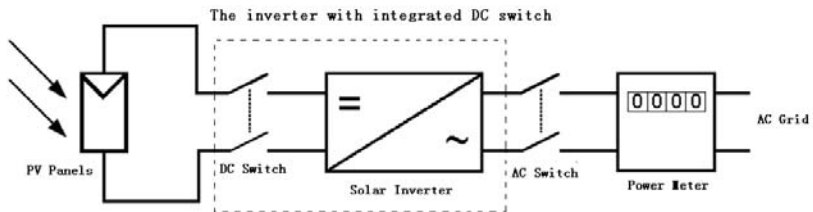

Fig.6 The PV system diagram
- DC Switch and AC Switch: “DC switch” is between PV Panels and solar inverter while “AC Switch” is between AC Grid (Utility) and solar Inverter. They are simplified in this diagram. In fact, they may consist of electrical breaker, fuse and connecting terminals. To comply with local safety standards and codes, the connection system should be designed and implemented by a qualified technician. JFY-tech also provides the solar inverter with an integrated DC switch demonstrated in dashed border in Fig.6. –S suffix indicates the inverter is integrated a DC switch in PV input side.